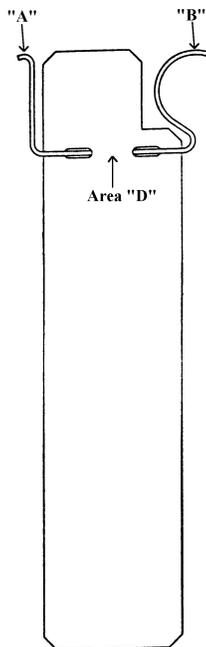
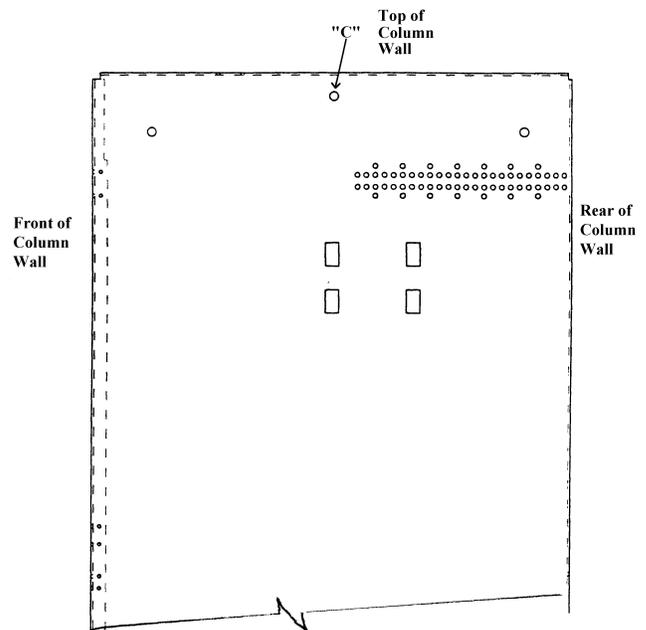

Figure 1
Figure 2
- A. Place Bottle Divider Assembly in position with area "D" (see figure 1) towards the front as shown.
- B. Spring clip end "A" (see figure 1) goes in the center hole "C" at the top of the narrow column wall on the left (see figure 2).
- C. Spring clip end "B" (see figure 1) goes in the center hole at the top of the narrow column wall on the right (see figure 2).
1. Unhook spring clip ends "A" and "B" (see figure 1) of Bottle Divider Assembly and lay bottle divider on top of the front bottles.
- B. Spring clip end "A" (see figure 1) goes in the center hole at the top of the narrow column wall on the left (see figure 2).